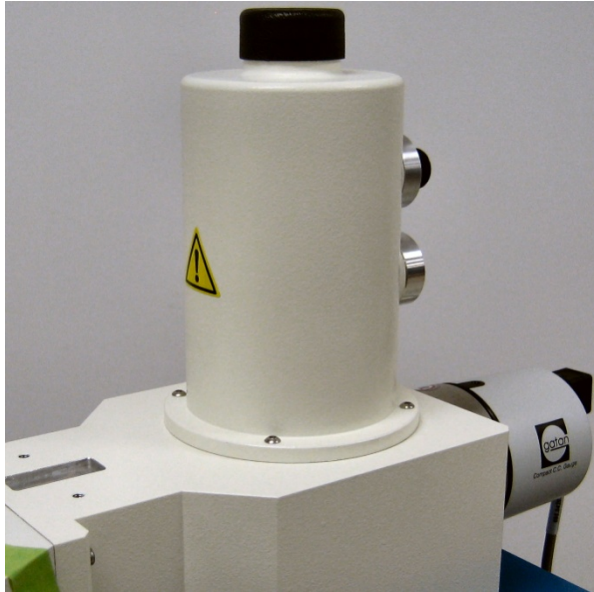

Figure 7-7. Dewar Assembly installed in manifold.
- b) Remove the 4 M3 screws that secure the dewar to the manifold. See Figure 7-7.
- b) Install the 4 M3 screws that secure the dewar to the manifold. See Figure 7-7.